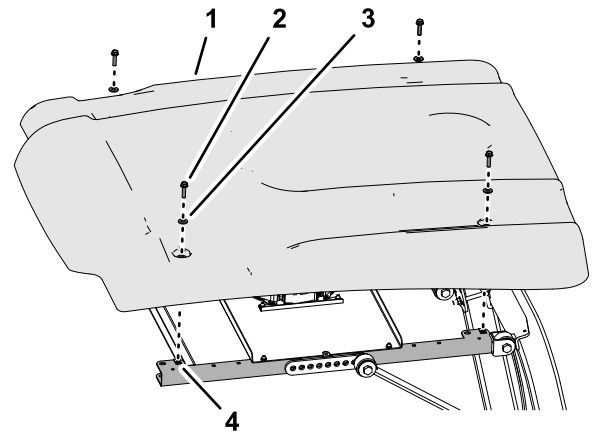

Figure 14
2. Assemble the sunshade to the frame channels (Figure 14) with the 4 flange-head bolts (5/16 x 1-1/4 inches) and 4 washers (5/16 inch) that you removed in 2 Removing the Sunshade (page 2).